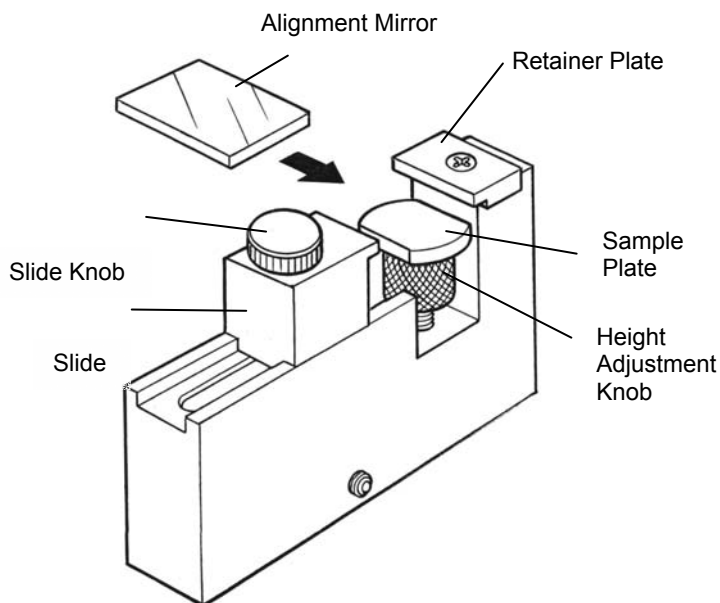

Figure 4 • Preparation of the External Reflection Sample Holder
- Turn the slide knob on the external reflection sample holder clockwise (Figure 4) until the slide is free to move.